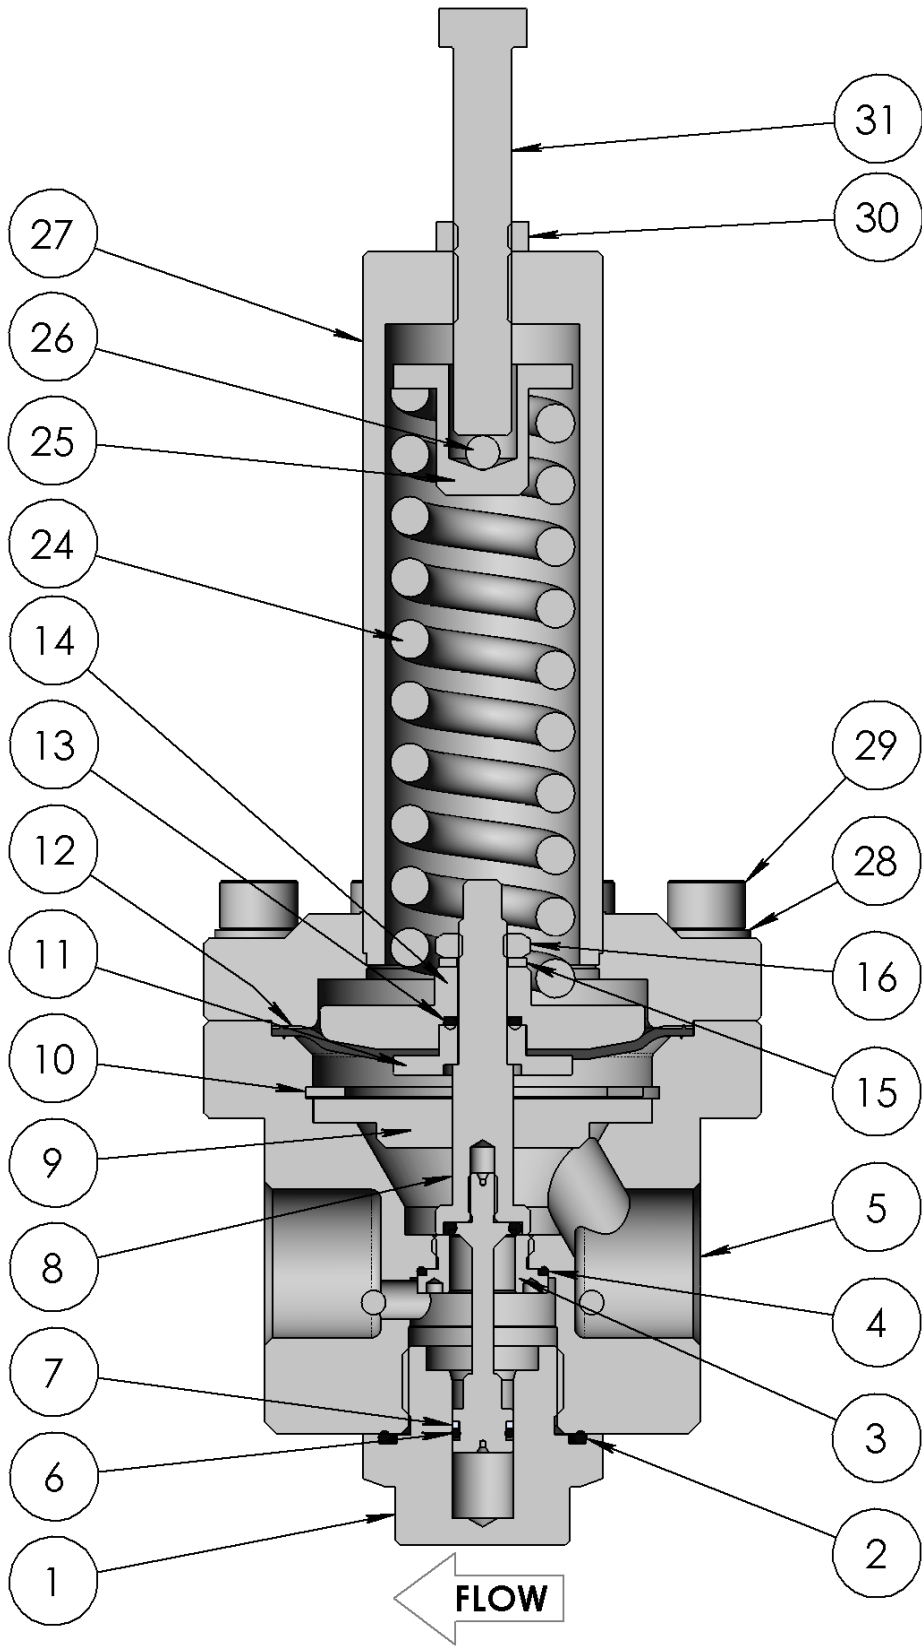

Fig 2
1. Fit the seat O-ring (4) onto the seat (3).
2. Lightly lubricate the seat threads (3) and insert into the body (5) using the seat insertion tool.
4. Fit the body plug O-ring (2) onto the body plug (1) and lightly lubricate the body plug threads (1).
5. Screw the body plug (1) into the body (5) and torque to 37 lbf·ft (50 N·m).
6. Fit the O-ring (6) and backup ring (7) onto the poppet (8). Ensure they are oriented correctly per Fig 2. Lightly lubricate the poppet O-ring (6).
7. Insert the poppet (8) through the seat (3) and into the body plug (1).
8. Insert the body plate (9) into the body (5) over the poppet (8) and secure with the retaining ring (10).
9. Assemble the clamp plate (11), diaphragm (12), clamp plate O-ring (13), and bottom spring guide (14) onto the poppet (8) per Fig 2.
10. Lightly lubricate the poppet threads (8).
11. Fit the washer (15) and nut (16) onto the poppet (8) and torque to 9 lbf·ft (12 N·m).
12. Fit the ball (26) into the upper spring guide (25) and retain in place with a liberal amount of lubricant.
13. Stack the set spring (24) and upper spring guide (25) onto the bottom spring guide (14).
14. Lightly lubricate the cap screws (29). Fit the spring housing (27) over the spring (24) and secure with the cap screws (29) and washers (28). Torque the cap screws (29) to 30 lbf·ft (40 N·m).
15. Lightly lubricate the adjusting screw (31) then assemble the lock nut (30) on to it.
16. Insert the adjusting screw (31) into the spring housing (27).